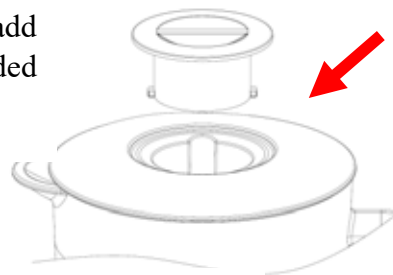

Fig.7
7. If you want to add ingredients while the blender is working, remove the measuring cup and place through the lid opening. (See Fig.7)